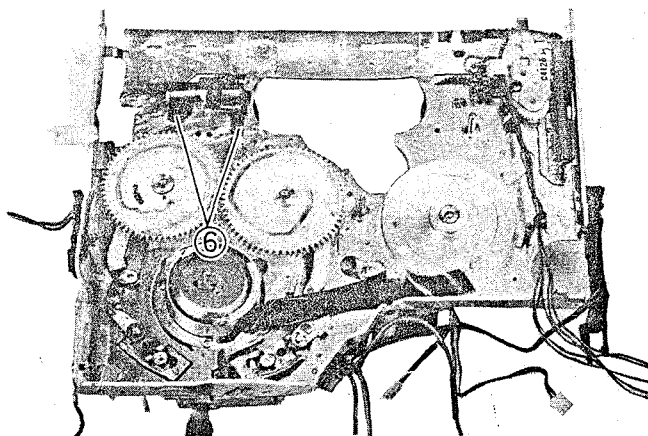

Fig. 2-119 Quick Slider Removal
Quick Slider Removal (Fig. 2-119)
6. Remove two (2) screws holding the quick slider. (See Fig. 2-119)